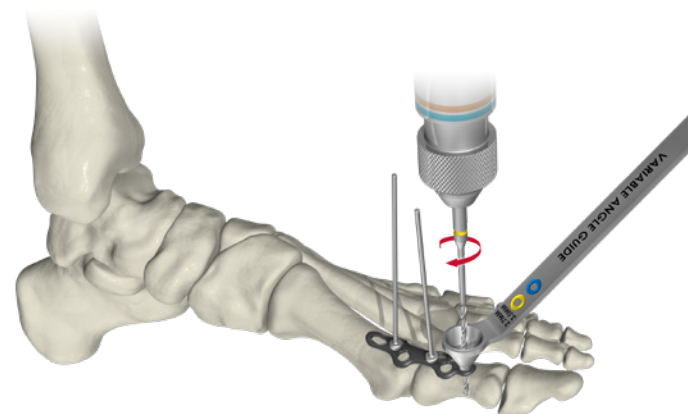

FIGURE 3
- All Arsenal Locking screws and locking holes have a 60° polyaxial cone of angulation (30° in any direction). To lock a screw off-axis, the Arsenal Variable Angle Drill Guide may be used (FIGURE 3).